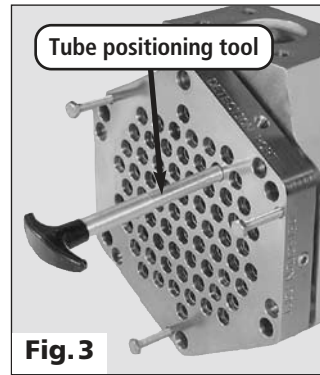

Fig. 3
5. Some tubes may pull out with the header plate as it separates and must be pushed back into the opposite header plate. When the header has separated 1/4" from shell flange, use the tube positioning tool P/N 109695 to push any attached tubes back into the opposite header. **Fig. 3.**